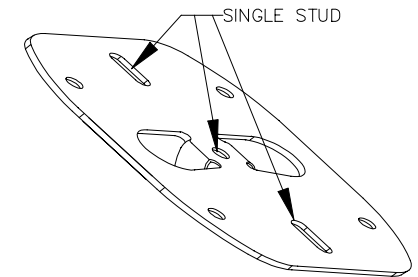

Fig 1
**SINGLE STUD:** Locate the center of the single stud where the Gyrolock® will be installed. The three (3) center mounting points for this installation must be used. Secure the upper plate to the single stud with the three (3) #12 X 2" wood screws (supplied). Start to secure the plate to the outer mounting points first. The plate may travel 1/2" front to back from center. Secure the final wood screw to the center of the upper plate. See (Fig 1).